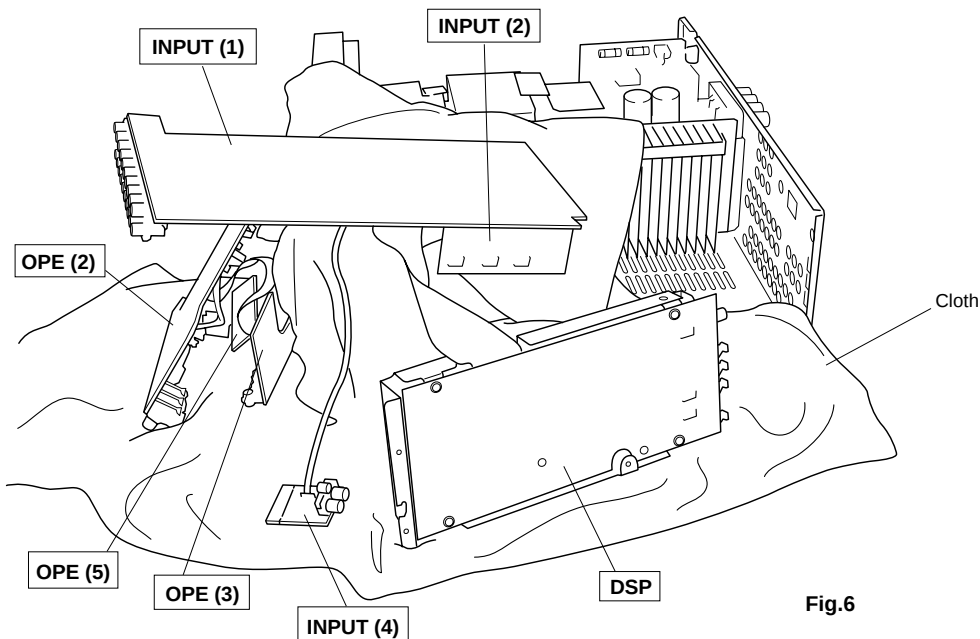

Fig. 6
- Place the INPUT (1)/(2) P.C.B. as shown in Fig. 6 and check them for operation.